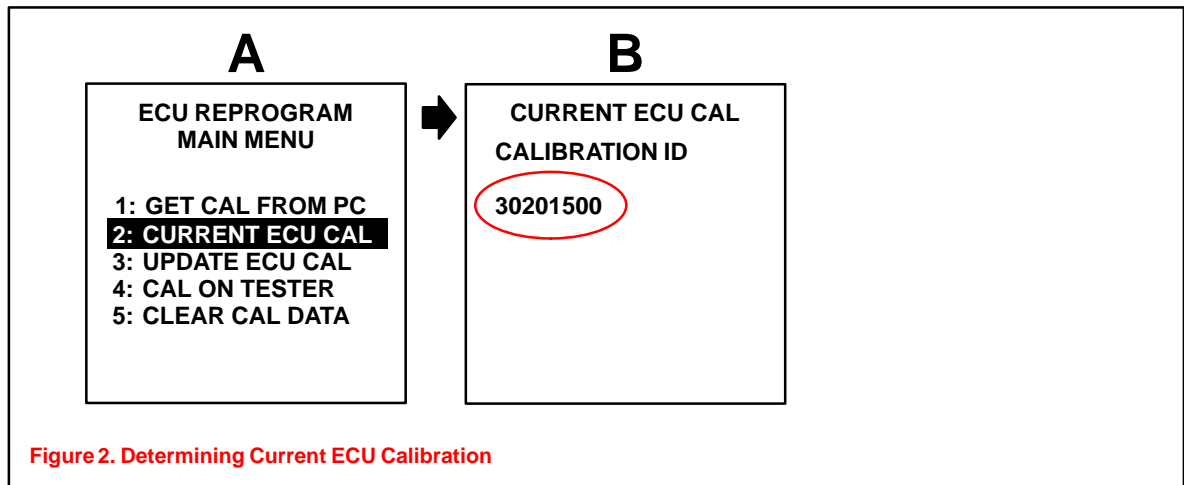

Figure 2. Determining Current ECU Calibration
2. Connect the Diagnostic Tester to the vehicle and select CURRENT ECU CAL from the ECU REPROGRAM MAIN MENU. Determine the vehicle’s current ECU calibrations (see Figure 2).